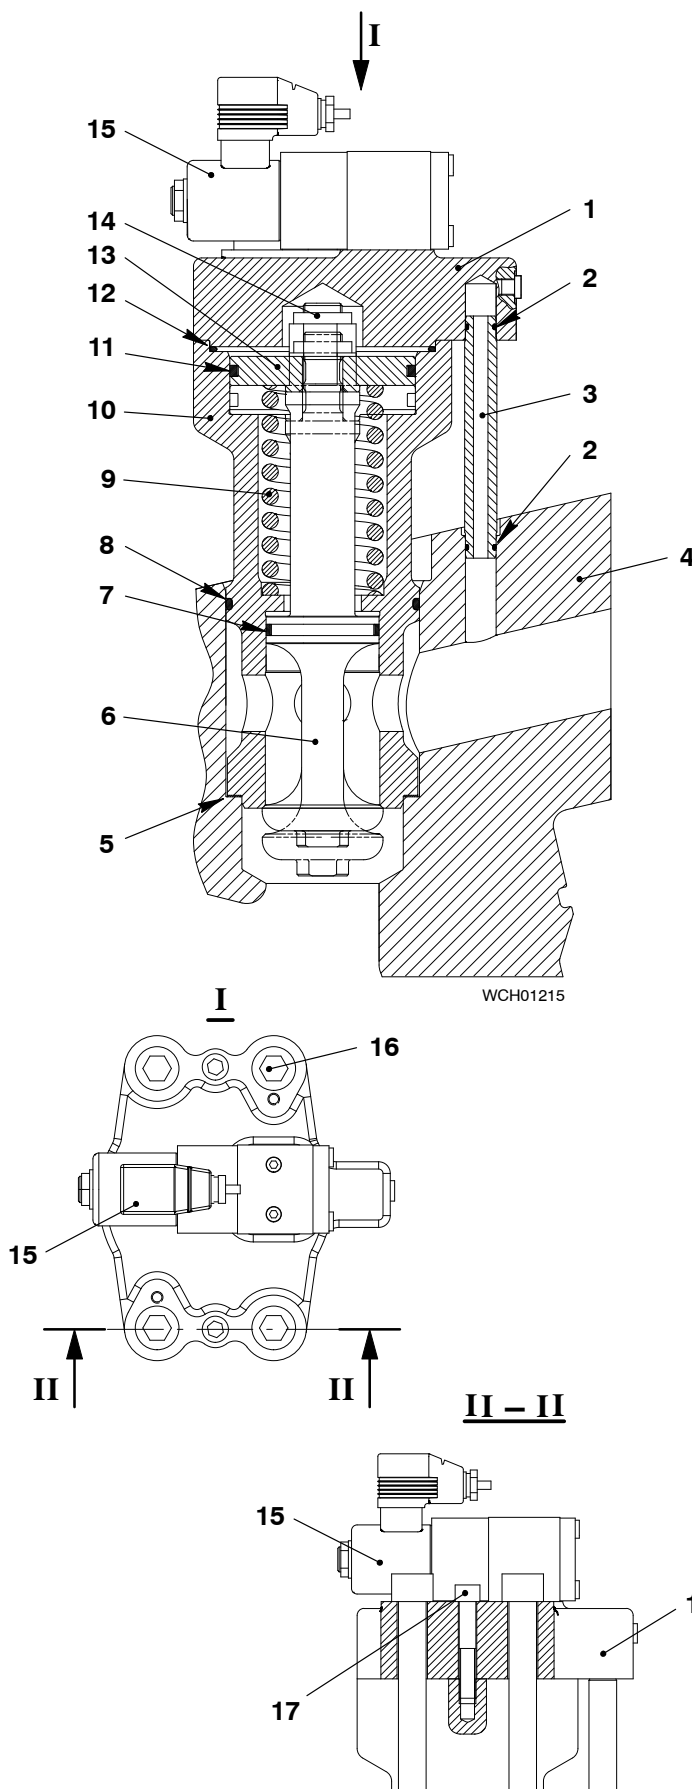

Fig. 3
- 1) Clean all the parts of the starting air valve (1, Fig. 3).
- 3) Put two new O-rings (2) on the pipe (3).
- 4) Put the new O-rings (8, 12) in the housing (2).
- 5) Put the valve spindle (6) into the housing (2).
- 6) Put the compression spring (9) into the housing (2).
- 7) Put the piston (13) in position on the valve spindle (6).
**Note: Do not get Molykote paste G on the thread of the valve spindle (6) where the insert of the self-locking nut (14) will go.**
- 9) Attach the self-locking nut (14) to the valve spindle (6).